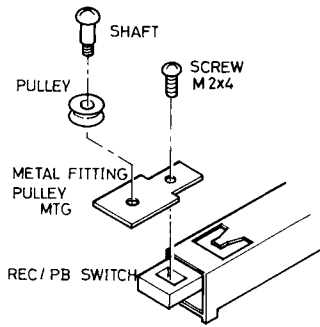

Fig. 3
2. Attach the pulley to the shorter projection of the switch (Fig. 3). When attaching the pulley mounting plate to the switch, be careful not to tighten the mounting screw excessively (Fig. 3).